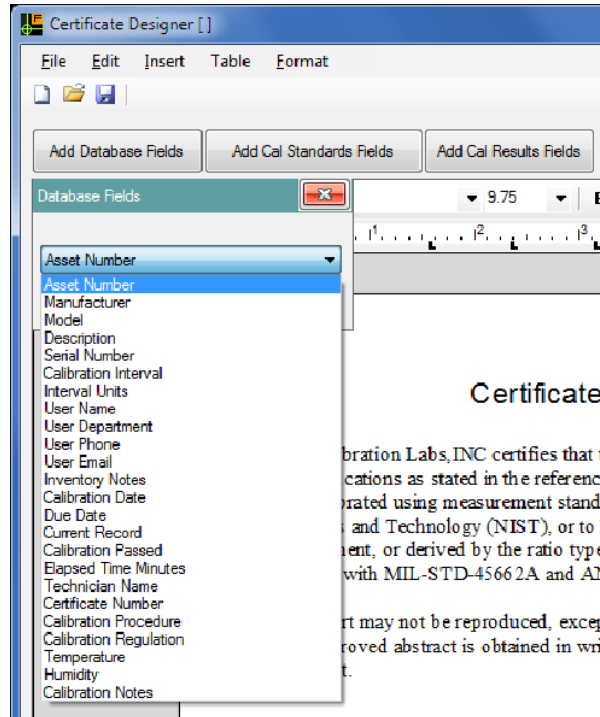

Figure 29. Adding a Database Field to a Report
3. Click on a field from the list box as shown in Figure 29 and push Enter.